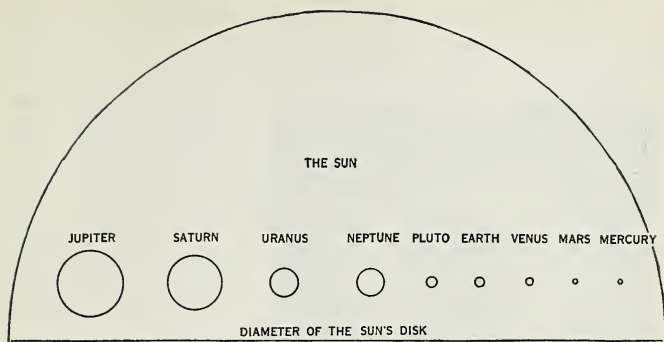
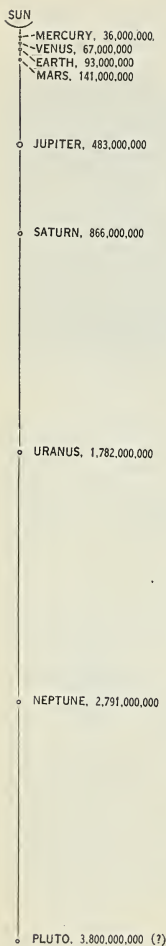

Fig. 552. The relative sizes of the sun and the planets.
Fig. 553. The distances of the planets from the sun.
The sun is of immense size compared with the earth. It is 864,000 miles in diameter; the earth is 8000. Over a million earths could be packed inside the sun (Fig. 552).
**The sun's family.** Moving around the sun in the same direction as the sun spins on its axis but millions of miles away are the planets, globes of gases, liquids, and rocks. The earth is one of the planets. We can see the largest and closest of them with the naked eye, but some are so small or so far away that a telescope is needed. The planets have no light of their own but shine by the reflected light of the sun. Figure 553 shows their names and positions. (See also Fig. 552).